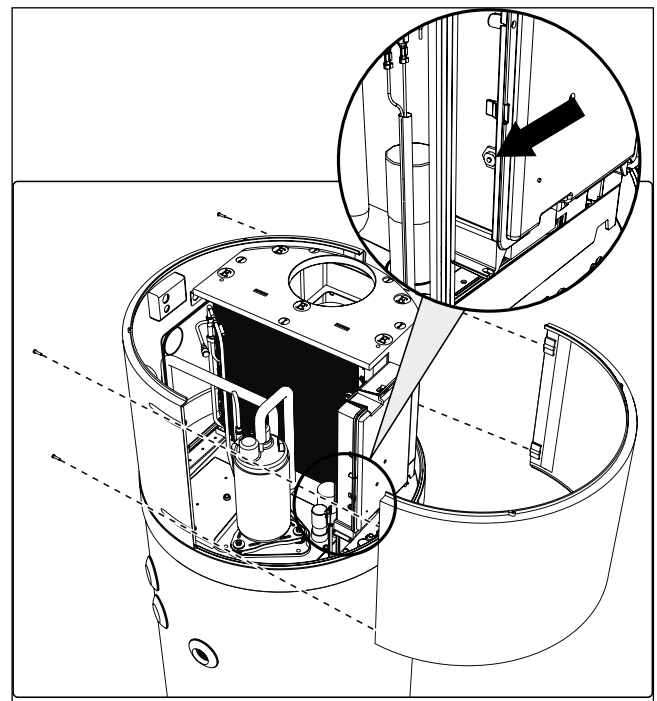

fig. 74- Front panel removal
- Remove the front panel and manually reset the tripped safety thermostat (fig. 74). In case of intervention, the central pin of the thermostat comes out by about 2 mm.